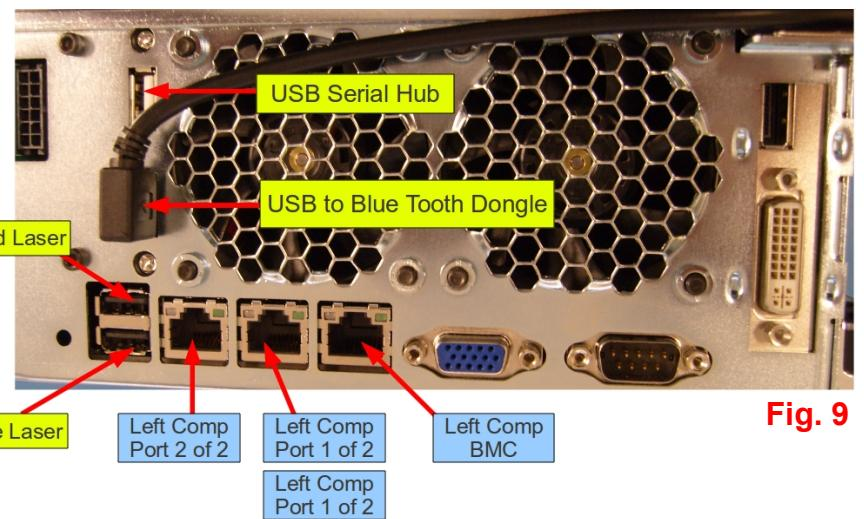

Fig. 9
10. Reconnect all cables to the server. Look at the labels on the cables and (Fig. 9) below